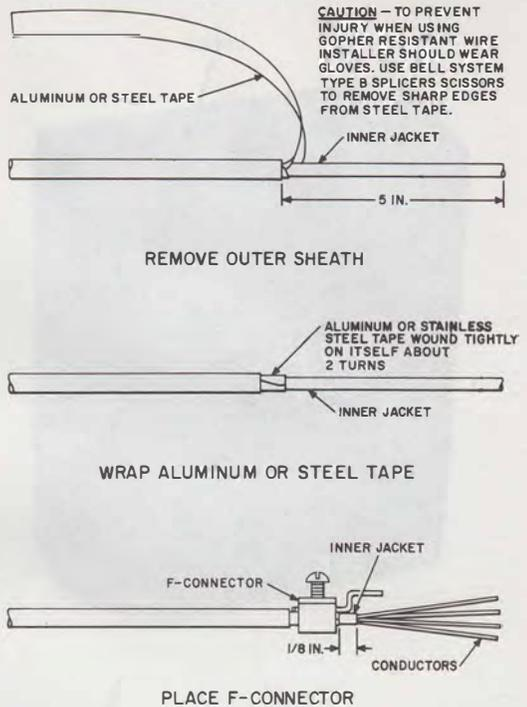
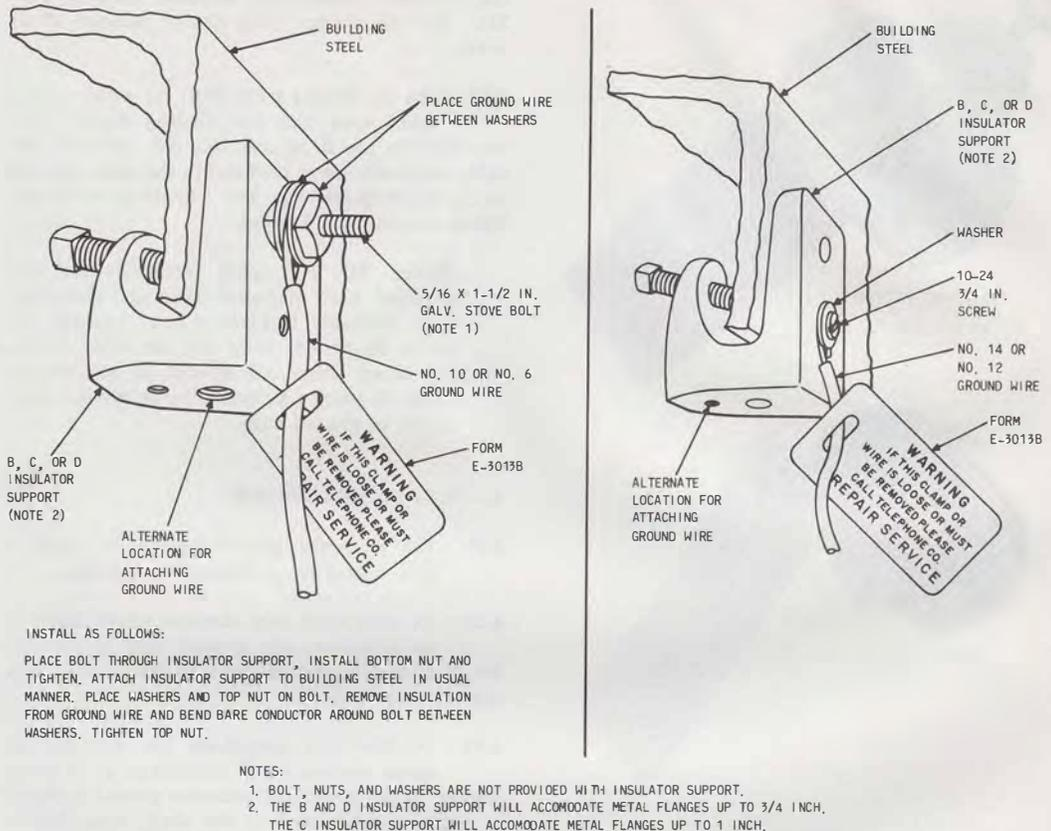

Fig. 23—Preparing B or C Service Wire for Bonding of Metal Shield
Fig. 53—Grounding to Building Steel
3.30 The 123- and 128-type protectors are mounted in a vertical position on the adapter plate of the 93D1 protector mounting. The ground connector provides a method of connecting the shield of a service wire to the ground terminal of a protector mounted in one of the lower positions on the adapter plate. The ground connector is connected to the shield of a service wire in the same manner as the F connector (Fig. 23).
6.09 See Table E for ground clamp selection. See Table F and Fig. 23, 49, 50, 51, and 52 for wire connectors. Connections to building steel may be made by using a C or D insulator support (see Fig. 53).